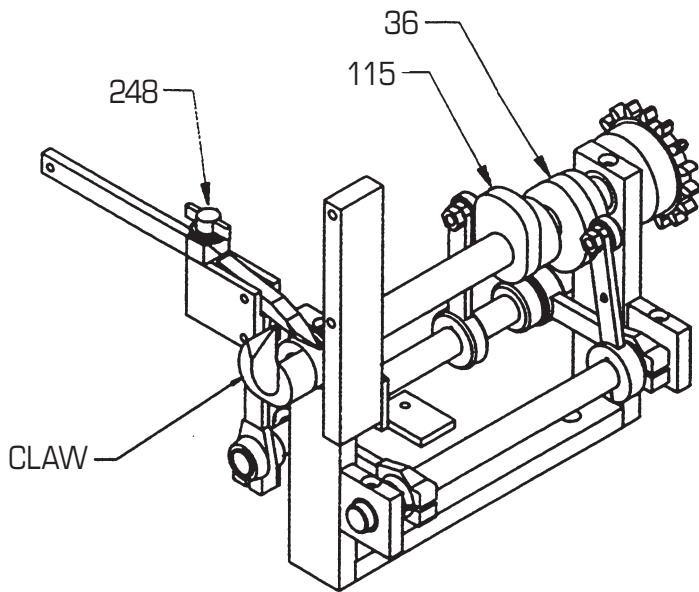

Figure 1
6. To adjust the thickness of the lift, turn the T-knob (#248, Figure 1) clockwise for thicker lifts and counterclockwise for thinner lifts.